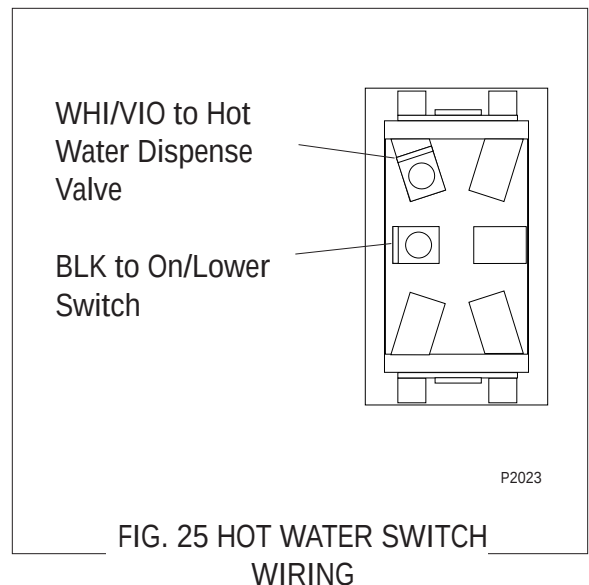

FIG. 25 HOT WATER SWITCH
4. Refer to FIG. 25 when reconnecting the wires.